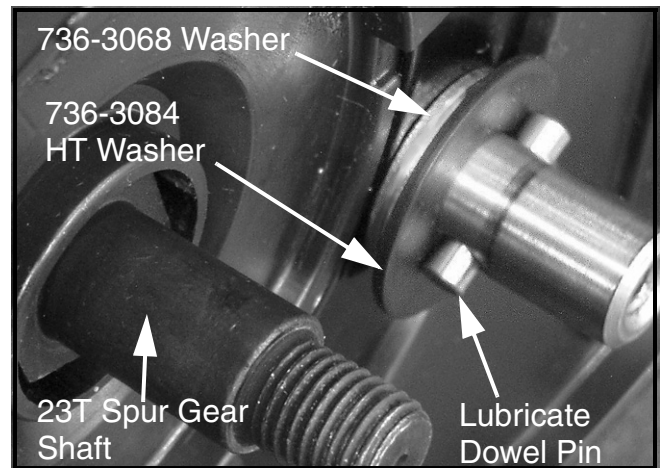

FIGURE 5
12. Assemble one (1) Flat Washer, Item 5, and one (1) Flat Washer (HT), Item 3, onto the transmission output shaft, as shown in Figure 5.
14. Install the dowel pin as shown in Figure 5.
19. Using a lithium or silicone base grease, lubricate the 23T spur gear shaft. Refer to Figure 5.